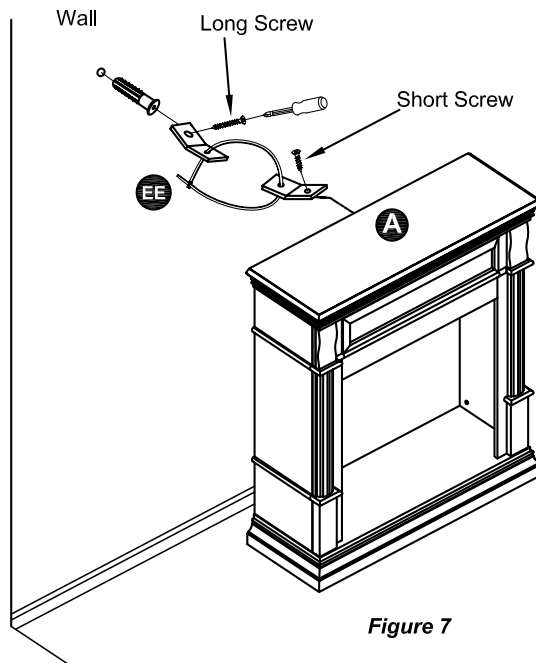

Figure 7
7. Install Anti Tip Kit (EE), as shown in Figure 7.